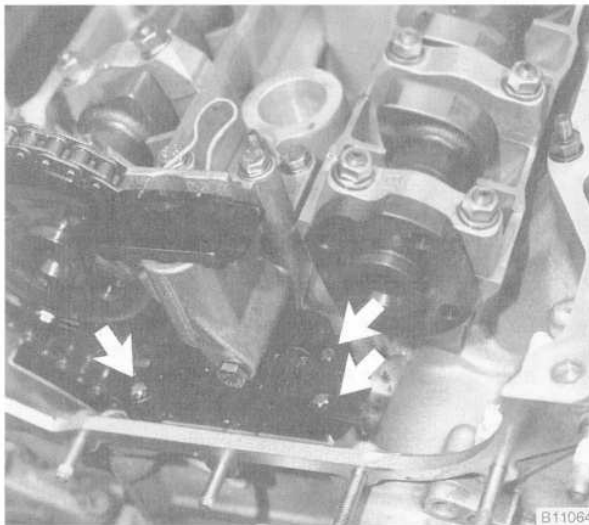

Fig. 24. Timing chain guide mounting bolts (arrows).
34. Remove the timing chain guide using a Torx E8 socket. See Fig. 24.